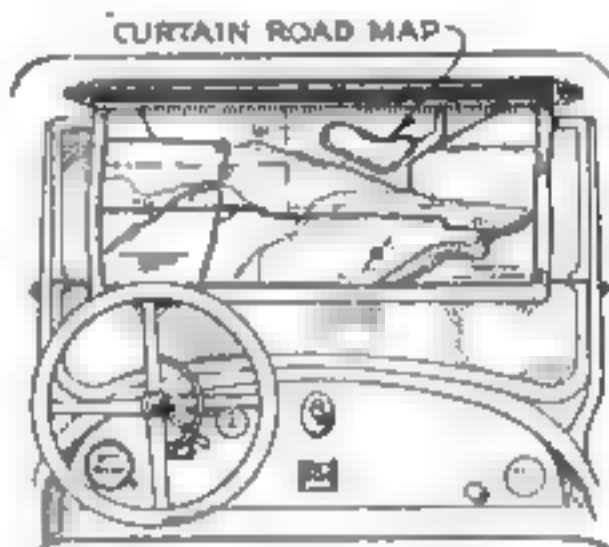

Fig. 4. Glued on a curtain above windshield.
P. D. Vullwock, of Edwardsport, Ind., wins this month's \$10 prize for his suggestion of a curtain road map (Fig. 4). Each month POPULAR SCIENCE MONTHLY awards \$10, in addition to regular space rates, for the best idea sent in for motorists. Other contributions used are paid for at the usual rates.
ORDINARILY, when you want to consult a road map, you have to unfold a large and hard-to-handle sheet of paper. A convenient way to carry the map is to fit a roller curtain just above your windshield so that it can be pulled down, as shown in Fig. 4. Glue or otherwise fasten the map to this curtain. The